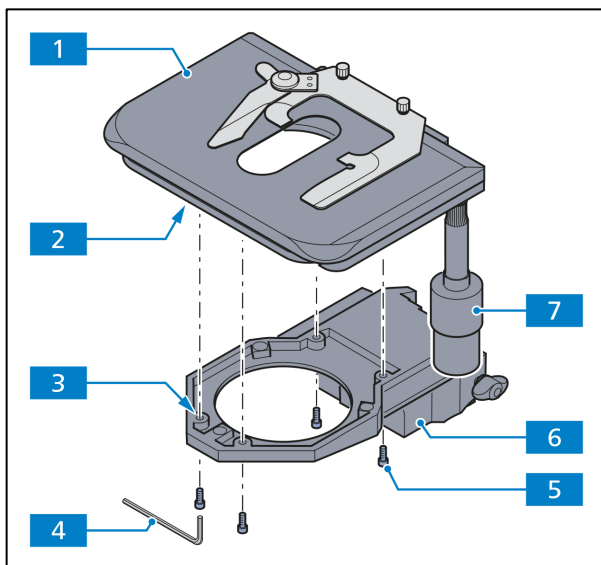

Fig. 3-10 Changing the mechanical stage, 75x50 R
Stages are available with a coaxial gear knob (Fig. 3-10/7) located on the right or the left side of the stage.
(1) Stable mechanical stage, 75x50 R
- Remove the four mounting screws (Fig. 3-10/5) on the stage carrier (Fig. 3-10/6) using the Allen wrench (AF 3) (Fig. 3-10/4).
- Remove the stage (Fig. 3-10/1) from the stage carrier. This is easier if you turn the stage and its carrier over.
- Fit the stage (Fig. 3-10/1) onto the stage carrier (Fig. 3-10/6) so that the threaded holes in the bottom of the stage (Fig. 3-10/2) are on top of the corresponding holes in the stage carrier (Fig. 3-10/3).
- Insert the four mounting screws (Fig. 3-10/5) from below through the holes in the stage carrier and screw them into the bottom of the stage.